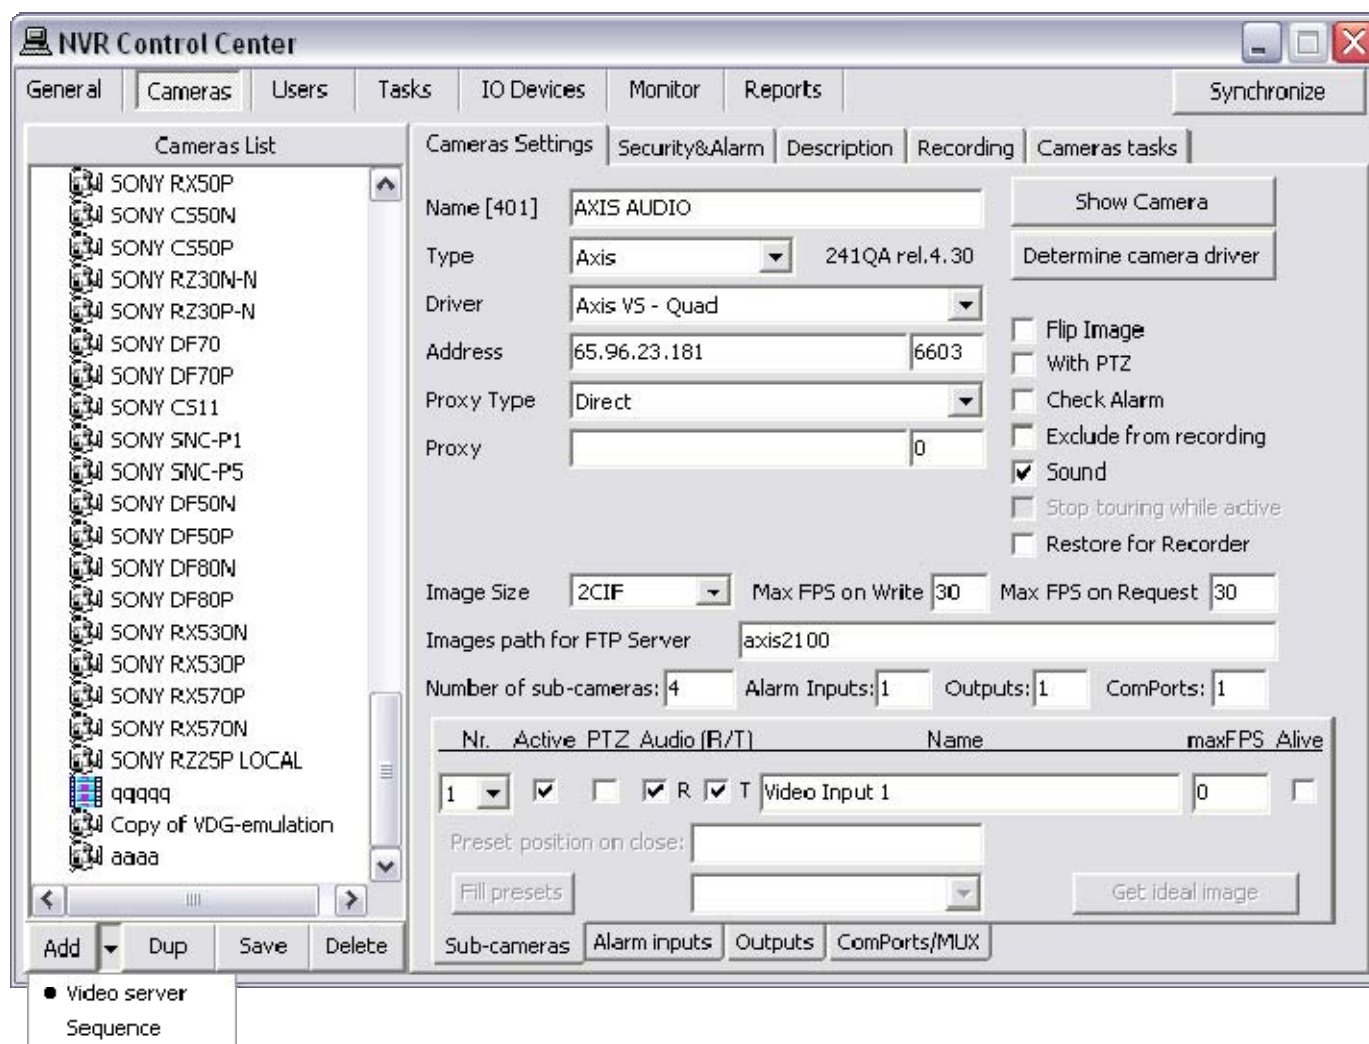

Fig 39. NVR Control Center — Cameras — Cameras Settings
1. In the **NVR Control Center** switch to the **Cameras** (Fig 39).